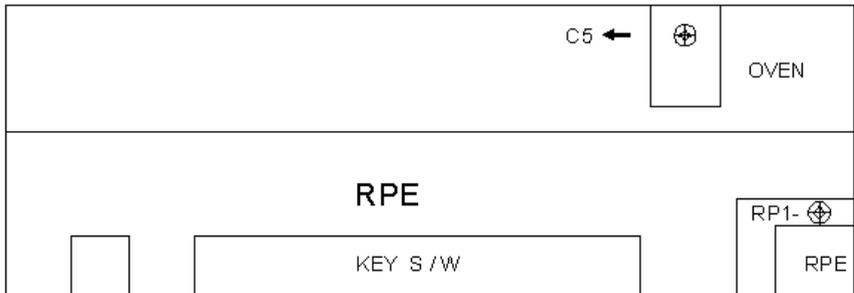

Figure 4
- 4、 While observing the counter display, adjust the timebase oscillator controller (C5 located on the oven) to obtain a reading of 10000.000±1 digit. (Figure 4)